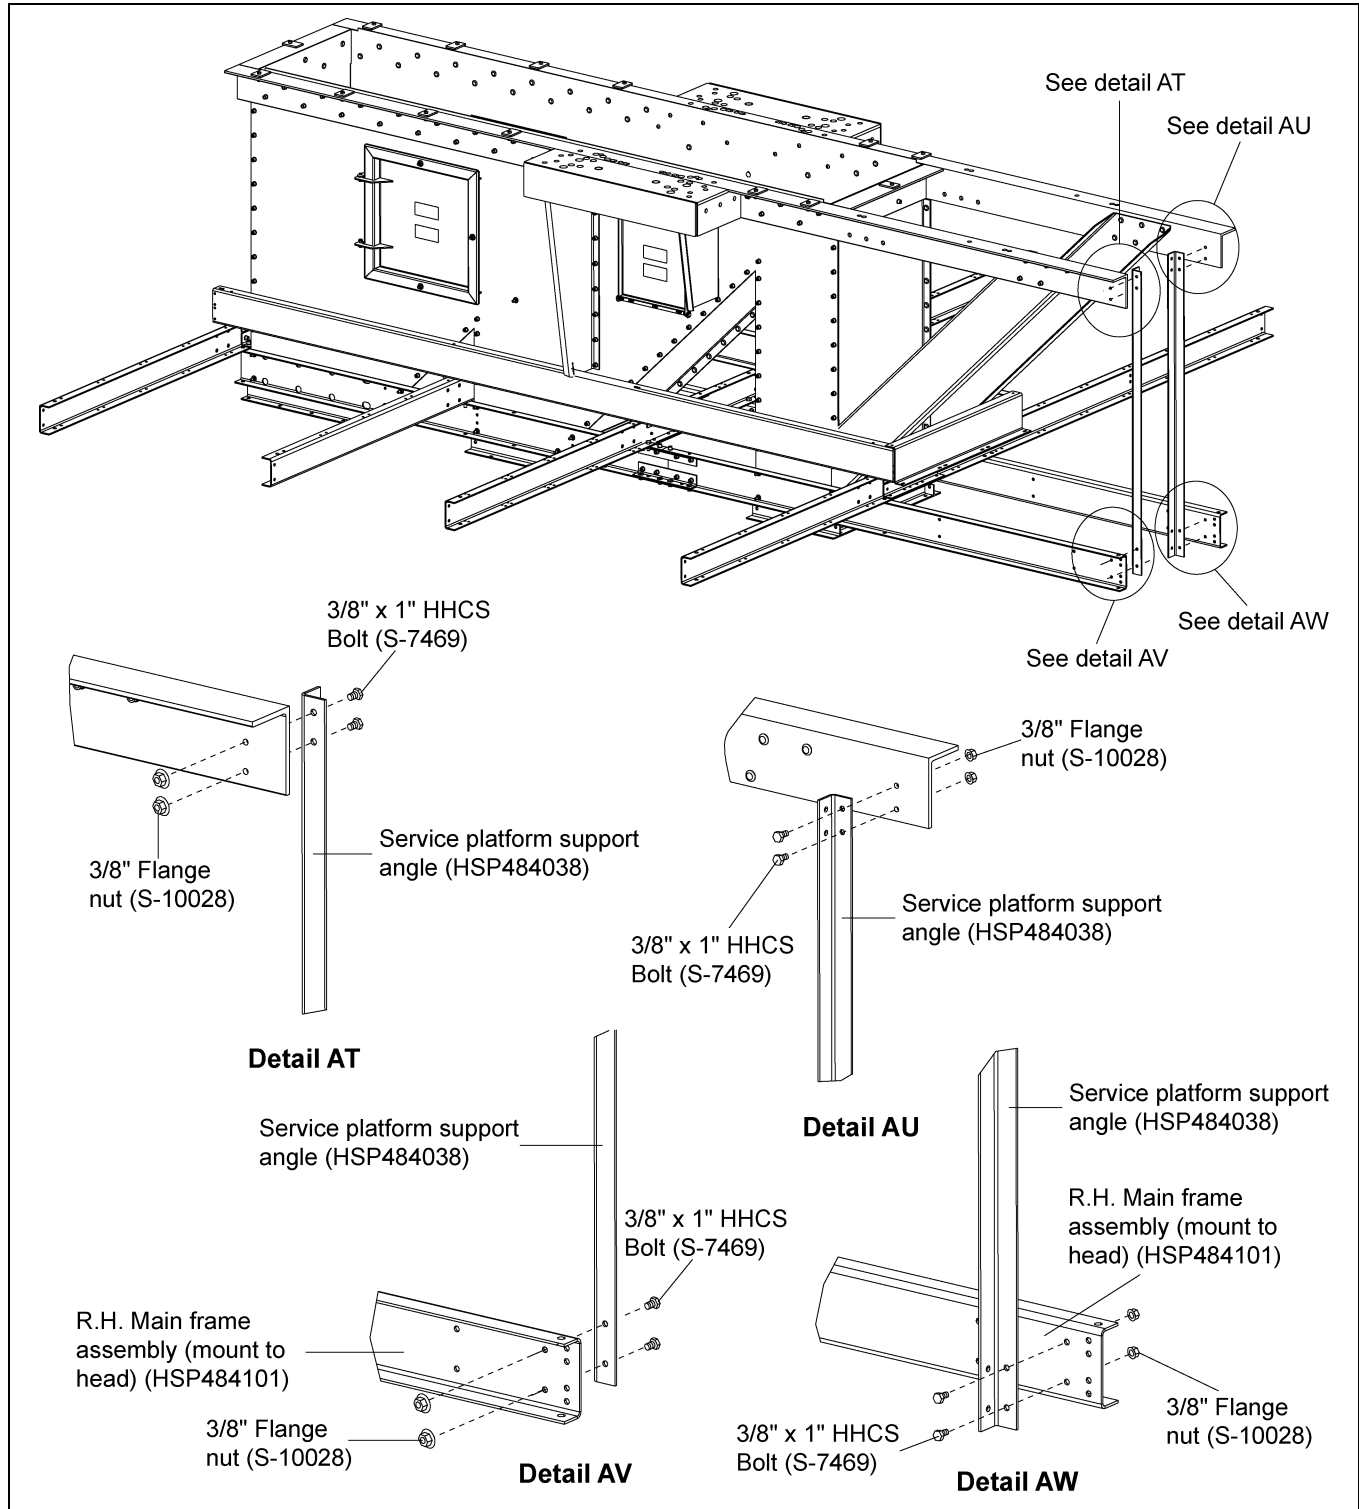

Figure 9H
1. Attach the deck channel support angles (HSP484038) to channel support assemblies (HSP484101) using 3/8" x 1" HHCS bolts (S-7469) and 3/8" flange nuts (S-10028). (See Figure 9H.)